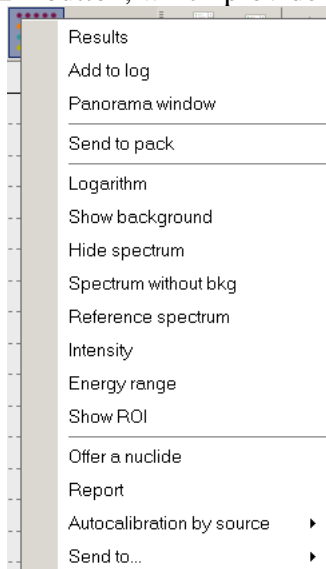
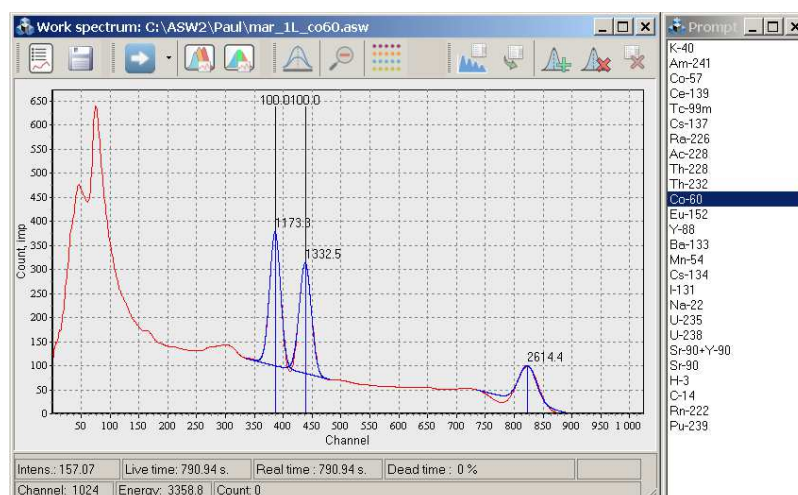

Figure 24. Menu **Options** of the spectrum window
Figure 28
- a button displaying a menu with spectrum options. When you press this button, a menu shown on Figure 24 will appear.
Using the **Offer a nuclide** command in the **Options** menu (see section 4.1, Fig.24) in the measured spectrum with distinct peaks, you can visually identify nuclides from the set library of nuclides **librp.dat**. When you activate the **Offer a nuclide** menu item, a **Prompt** window, which will display the list of radionuclides, will appear on the display (see Fig.28).